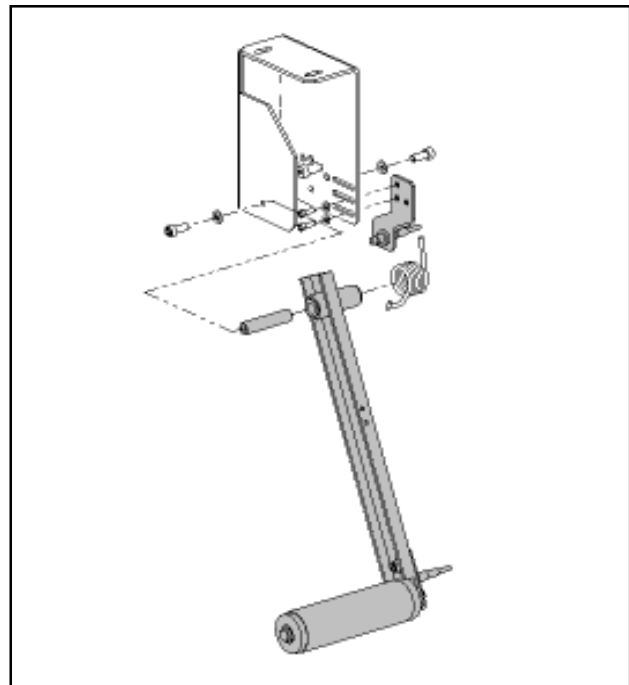

Figure 2
- 1) Locate and remove the two M6 cap screws from the lower tape dancer arm assembly and slide the shaft with dancer arm from the lower mounting bracket. (Refer to figure 2 and the Tape Application Monitoring Kit "Instructions and Parts List").
- 2) Remove the two M4 cap screws that hold the low tape supply proximity sensor bracket to the lower mounting bracket. The lower dancer arm mounting bracket, spring and fasteners are not used in the new installation. (See figure 2)